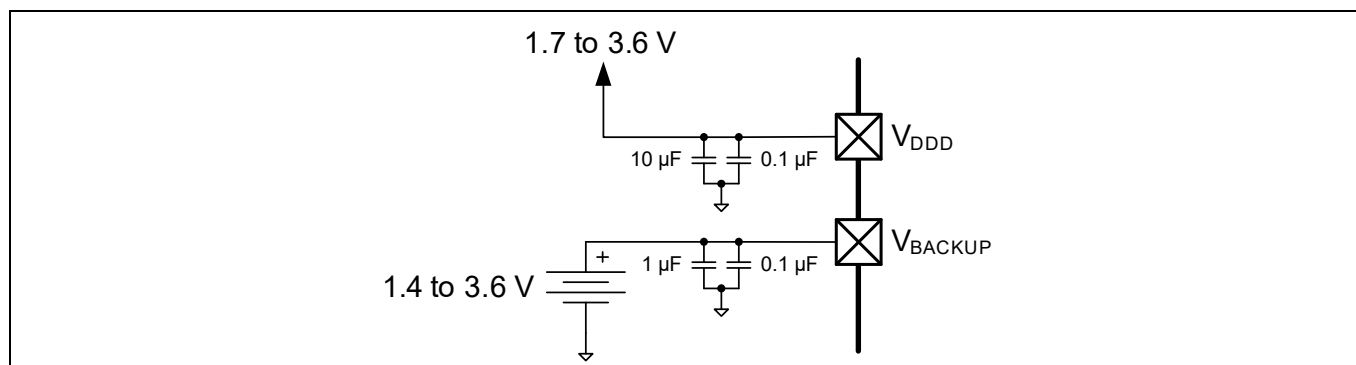

Figure 15 Separate Battery connection to V_{BACKUP}
- V_{BACKUP} : the supply for the backup domain, which includes the 32-kHz WCO and the RTC. It can be a separate supply as low as 1.4 V, for battery or supercapacitor backup, as **Figure 15** shows. otherwise it is connected to V_{DDD} . It powers I/O port 0.